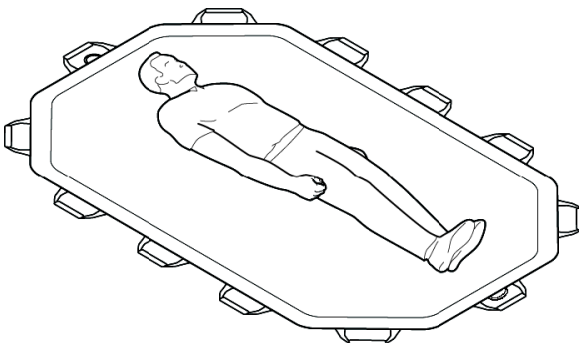

Figure 2
2. Use appropriate industry techniques to center the patient on the Transfer Flat as shown in Figure 2.